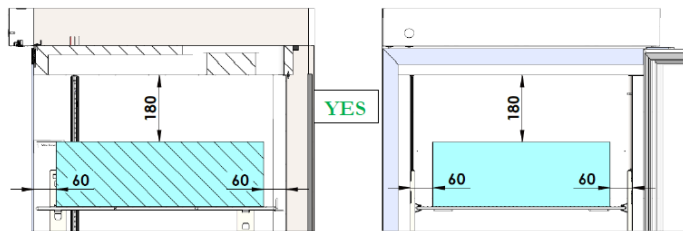
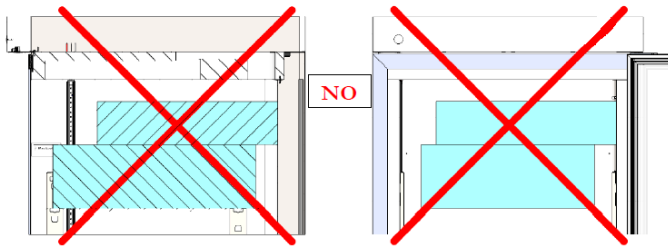

Figure 7. Correct Material Storage
Figure 8. Incorrect Material Storage
- Store material leaving a distance of at least 60 mm from sides and at least 180 mm from the top of the compartment (refer **Figure 7** and **Figure 8**).